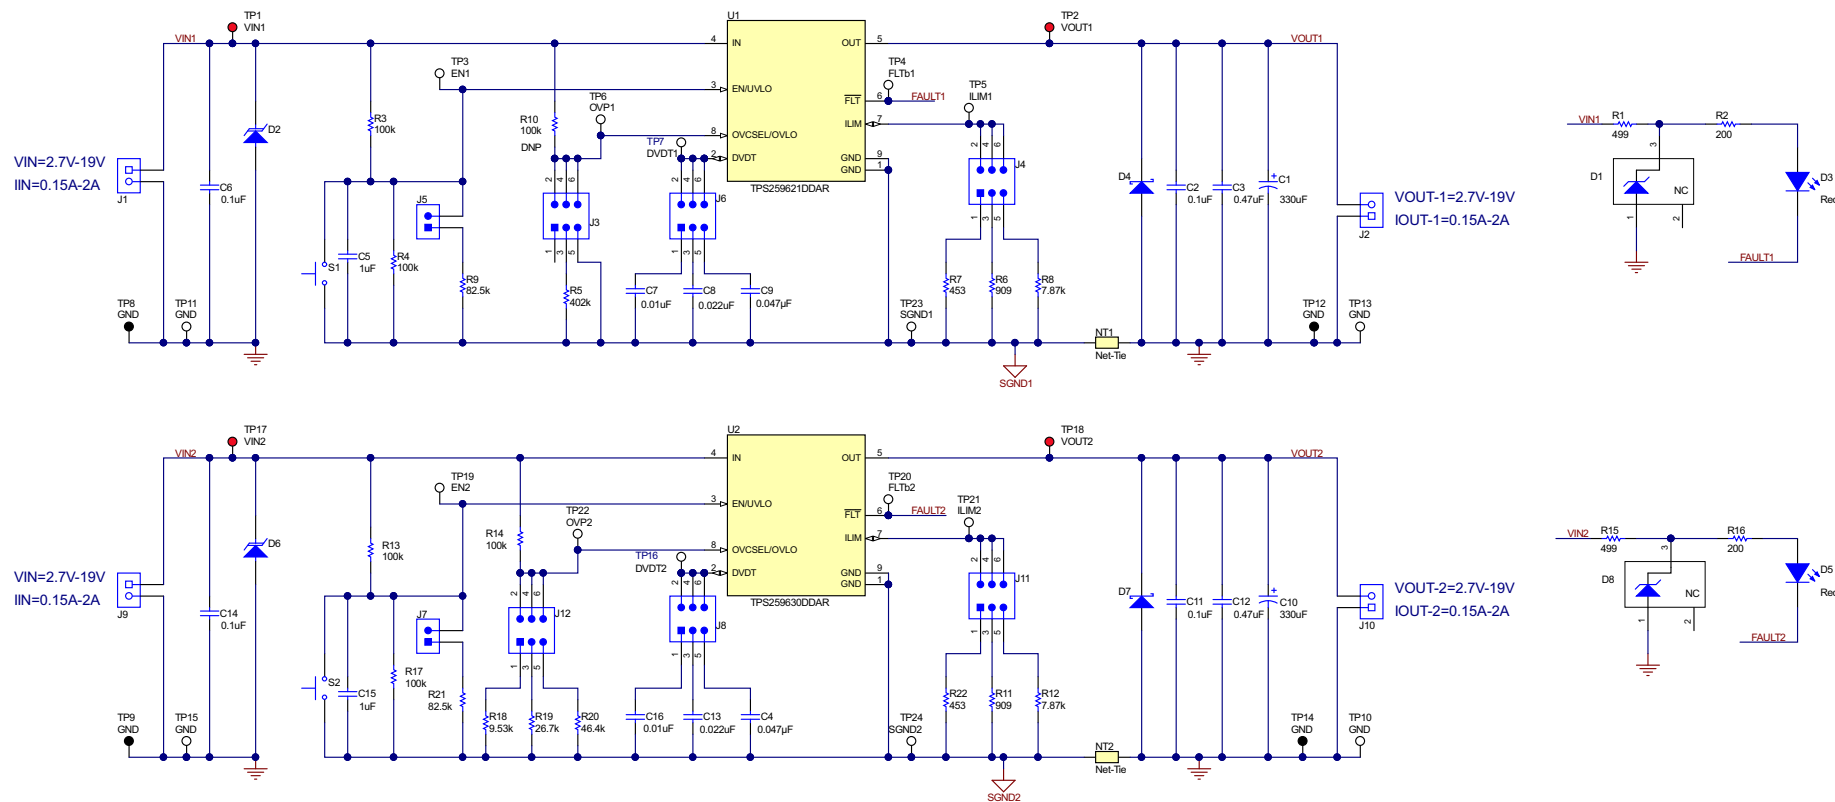
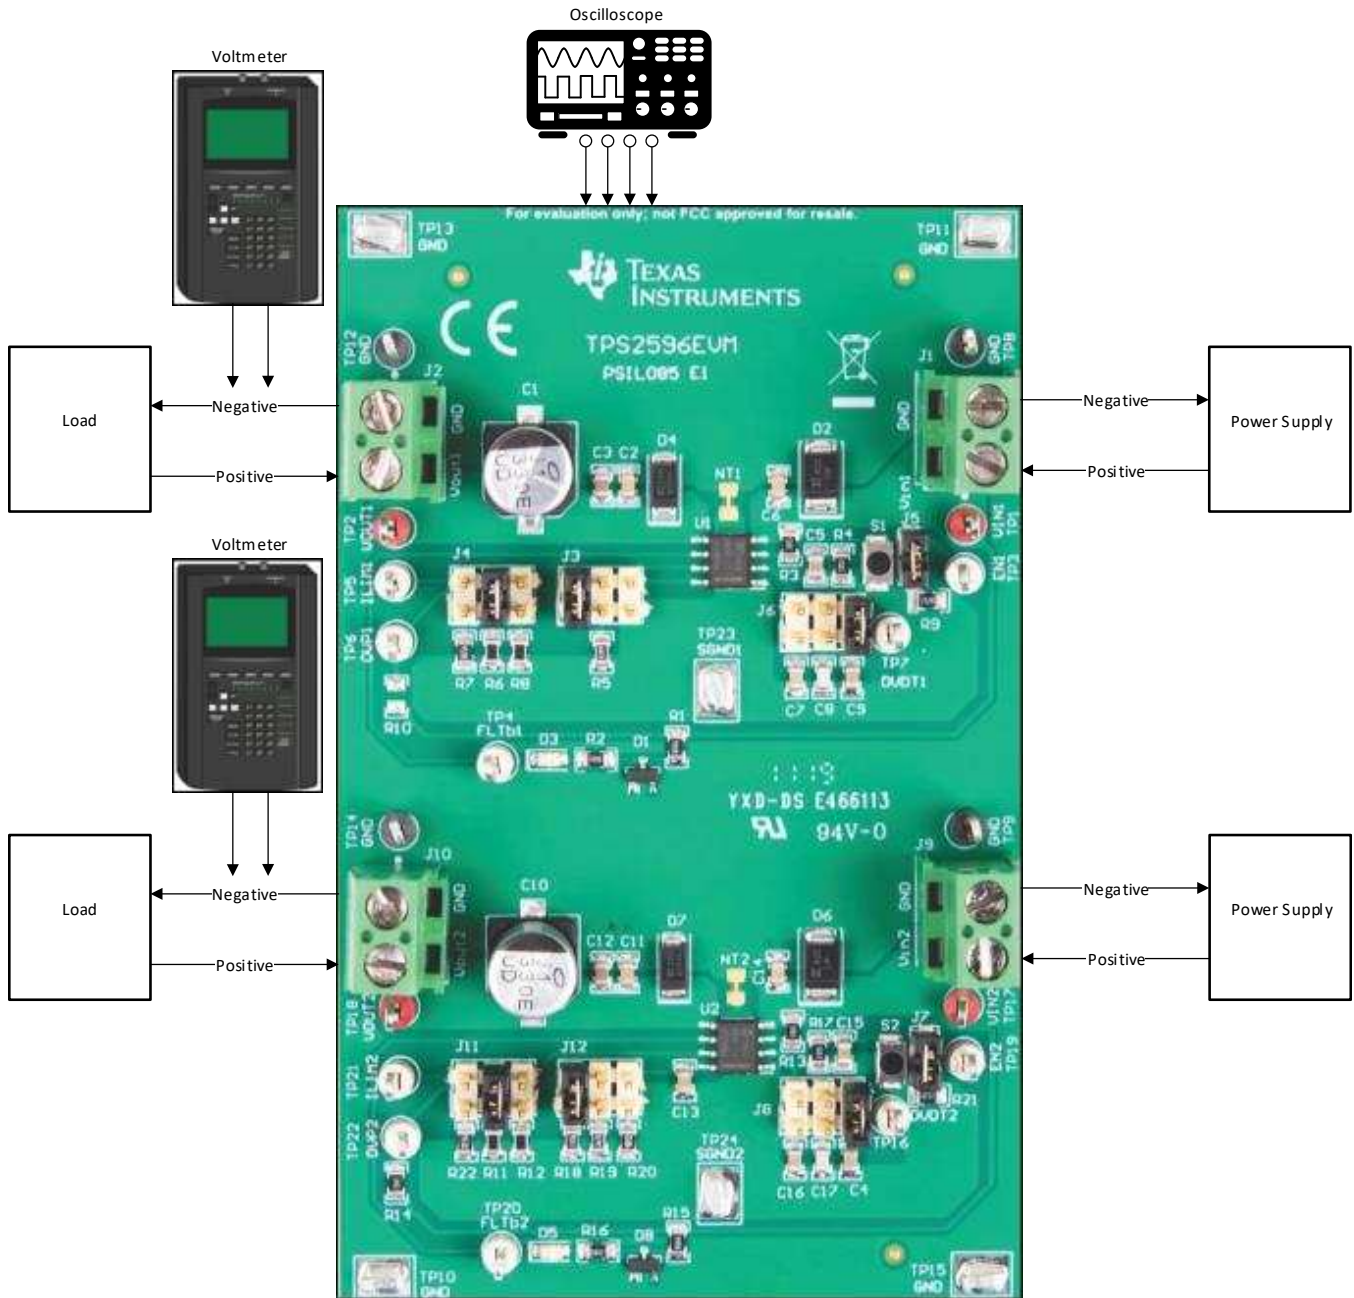

Figure 1. TPS2596EVM Schematic
Figure 2. EVM Setup with Test Equipment
The TPS2596EVM enables full evaluation of the TPS2596xx devices. The EVM supports two versions (Auto-Retry and Latch-Off) of the devices on two Channels (CH1 and CH2, respectively). Input power is applied at J1 (CH1) and J9 (CH2) while J2 (CH1) and J10 (CH2) provide the output connection to the load. Refer to the schematic in Figure 1, and EVM test setup in Figure 2. The TPS2596EVM supports evaluation of single layer and two layer PCB designs on CH1 and CH2 respectively. Refer to the TPS2596EVM layout in Figure 8 and Figure 9.
Figure 1 illustrates the schematic for this EVM.
Figure 2 shows a typical test setup for the TPS2596EVM. Connect J1/J9 to the power supply and J2/J10 to the load.
3. Turn off the power supply. Hook up CH1 and CH2 of the TPS2596EVM assembly as shown in Figure 2.